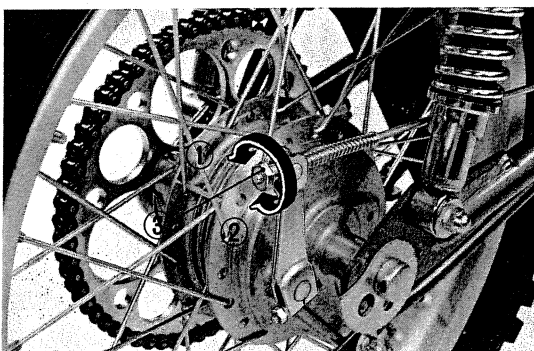

Fig. 16 ① To increase play ② To decrease play
- 2) Adjust the pedal free play by turning the rear brake adjusting nut ③. Turning the adjusting nut in direction ② will decrease the brake pedal free play and turning the nut in the direction ① will increase the play. (Fig. 16)